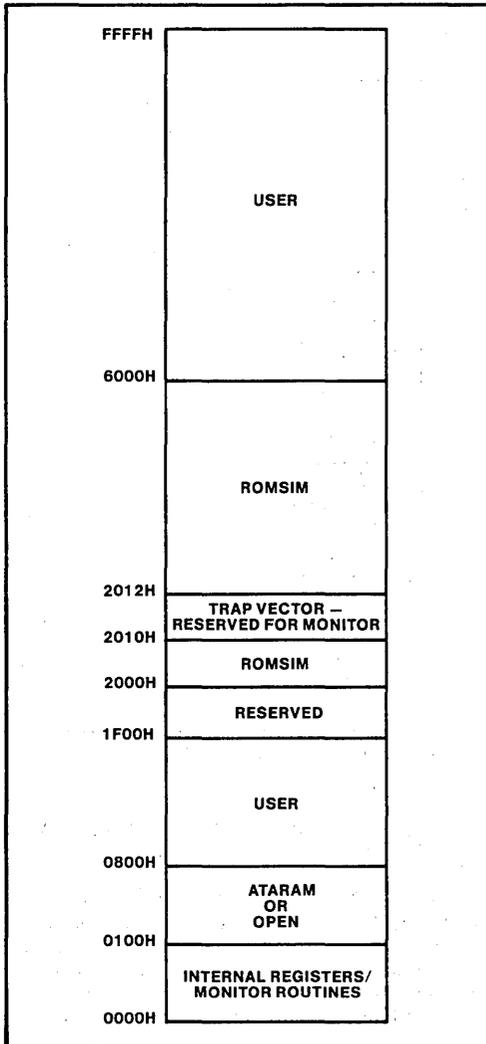

Figure 2. iSBE-96 Emulator Default Mapping
The target system should be designed with a memory map that is compatible with one of the iSBE-96 memory maps. Figure 2 shows the default address mapping. The following sections describe the areas of memory.
- User system memory should be configured to the iSBE-96 memory map (see Figure 2).